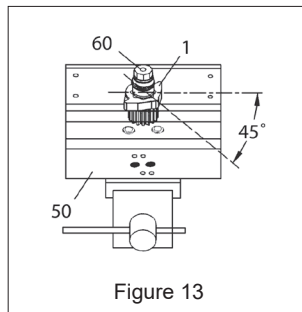

Figure 13
- Ensure that the octi-cam (1) is in the correct position as shown by (Figure 13).